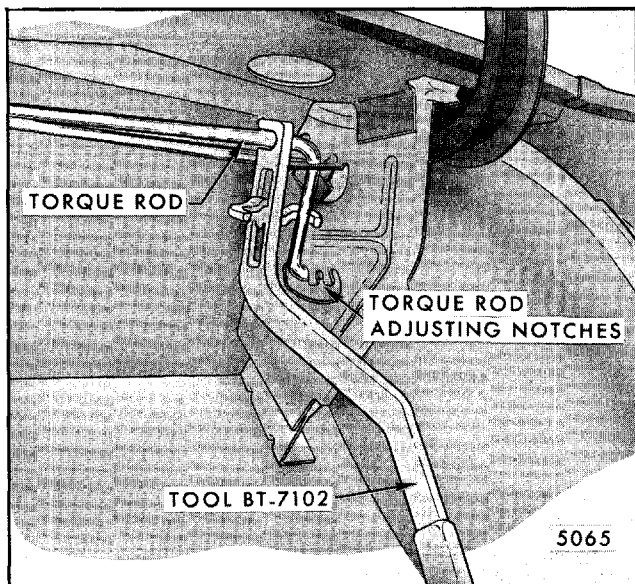

Fig. 7-49-Rear Compartment Torque Rod Adjustment - Oldsmobile "E" Styles.
- d. On Oldsmobile "E" styles, use tool BT-7102 or equivalent (Fig. 7-49).